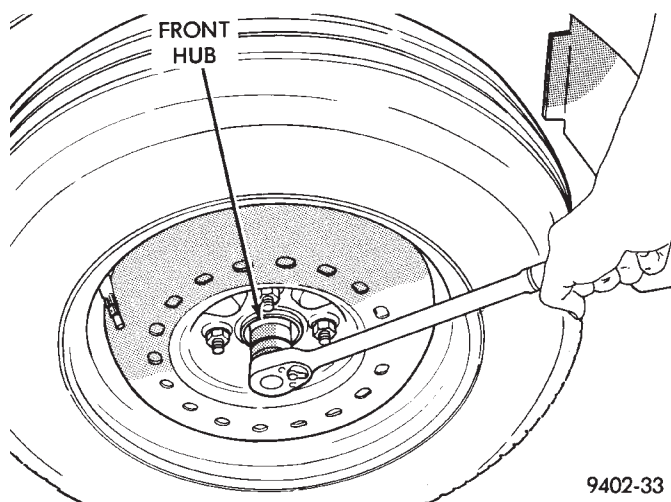

Fig. 3 Loosening Front Hub Retaining Nut
- (2) Loosen (but do not remove) stub axle to hub/bearing retaining nut. Loosen hub nut while vehicle is on the floor with the brakes applied (Fig. 3). The front hub and driveshaft are splined together and retained by the hub nut.